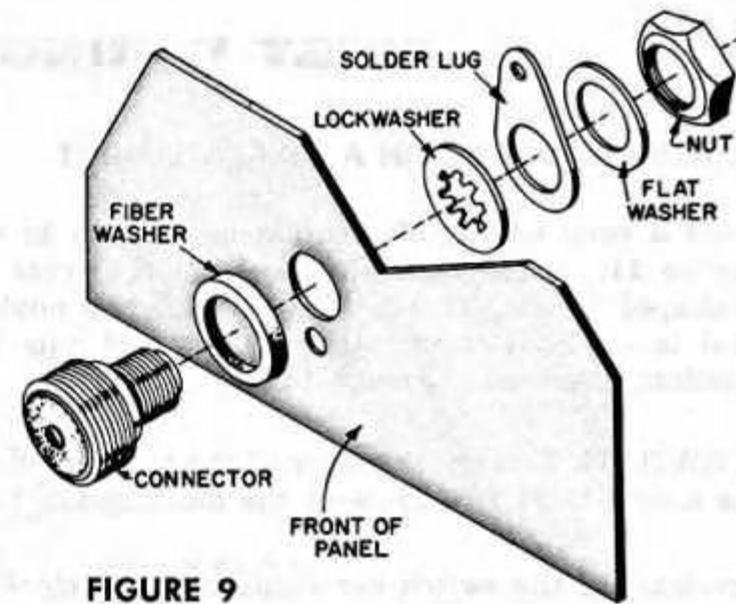

FIGURE 9
- Front panel connector. From the front of the panel, mount the front panel connector in the hole between R-20 and R-31. Mount as shown in Figure 9, with a $\frac{3}{8}$ " lockwasher and the hardware supplied with the connector. Be sure to position the solder lug away from the edge of the panel.